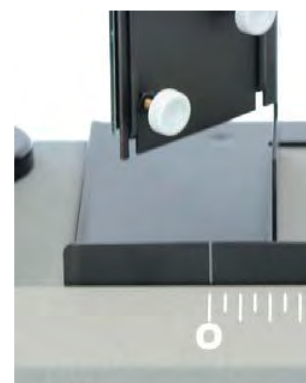

Fig. 13
- Place the mirror near the operating unit, that the slit of the mirror's base points to the zero point of the base plate's scale (*Fig. 13*).